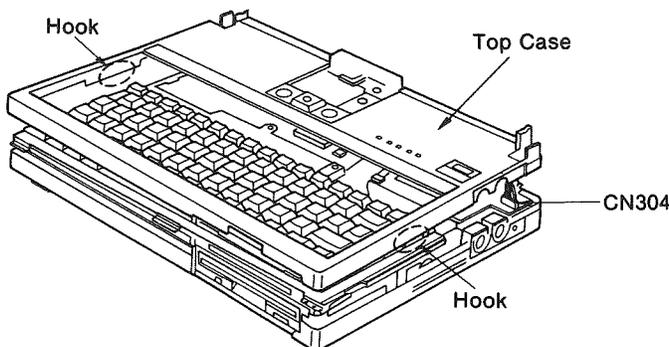

Figure 12
(10) Turn over the computer again. Then, carefully pull the sides of the top case outward and raise the top case to unlatch the side hooks. Disconnect the LED/Switch PCB connector (CN304) as shown in Figure 12.